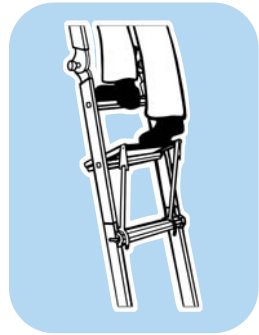

Figure G-5
5. Push platform back with toe (see figure G-5) until the forward tip of the platform rests against the rung.